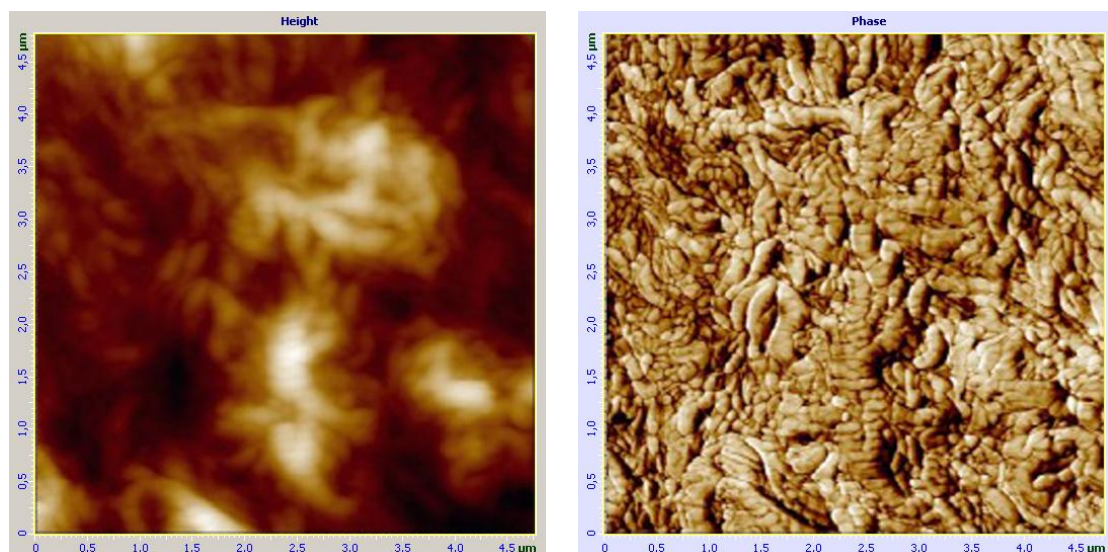

Fig. 8-35. Images of surface topography and phase distribution of polyethylene
- Two images appear in the field of 2D visualization of the scanning data. One of the images is an image of surface topography (signal **Height**), while the other one is the phase distribution (signal **Phase**) (Fig. 8-35);